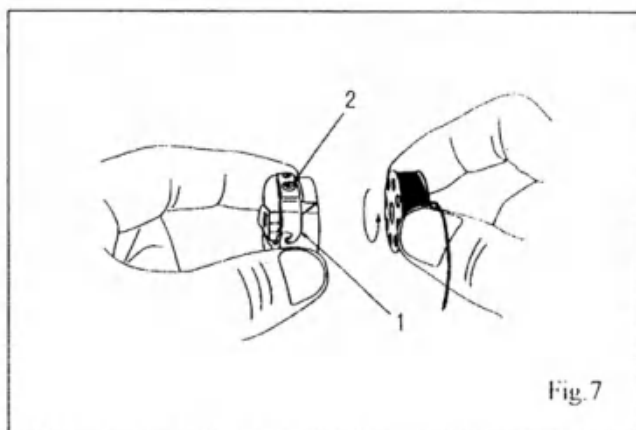

Fig.7
3) Hold the bobbin between the thumb and forefinger of your right hand and pull out a length of about 5 cm of thread. Holding the bobbin case in your left hand turn the open side up and place the threaded bobbin into it. (Fig.7)
4) With the right hand guide the thread into the slot in the edge of the bobbin case. Then pull the thread to the left, under tension spring 1 (Fig.7) and into the delivery eye. In order to keep the bobbin from dropping out of the case when it is turned with the open side down, always keep the hinged latch at the front of the bobbin
2) Tension of the lower (bobbin) thread: (Fig. 7)
The lower (bobbin) thread tension is controlled by the larger screw (2 Fig. 7) near the end of the spring at the outside of the bobbin case. Turning this screw to clockwise to increase the thread tension, while turning it to counter-clockwise to decrease it.